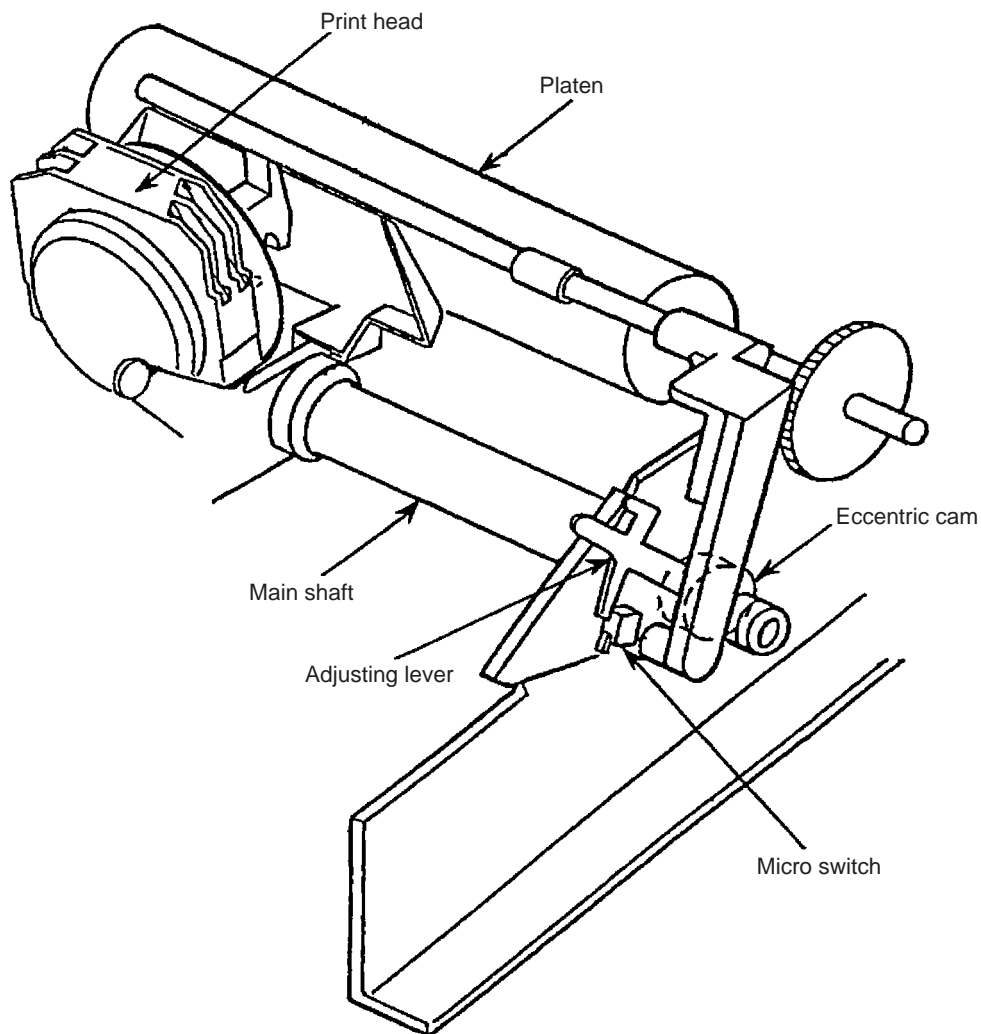

Figure 2-6 Head gap adjusting mechanism
2.3.4 Head Gap Adjusting Mechanism and Operation (See Figure 2-6)